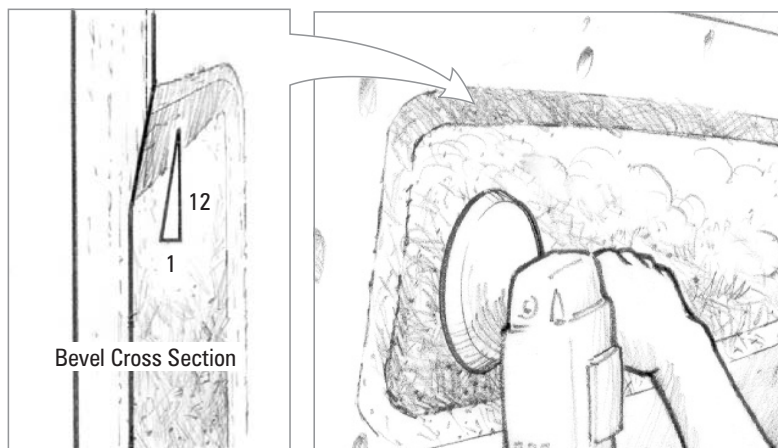

Figure 2-6 Grind away the laminate over large voids to expose solid laminate. Grind the edge of the repair area to a minimum 12-to-1 bevel.
3. Bevel the edge of the repair area to a minimum 12-to-1 angle to provide a greater bonding area and reduce stress concentrations (*Figure 2-6*).